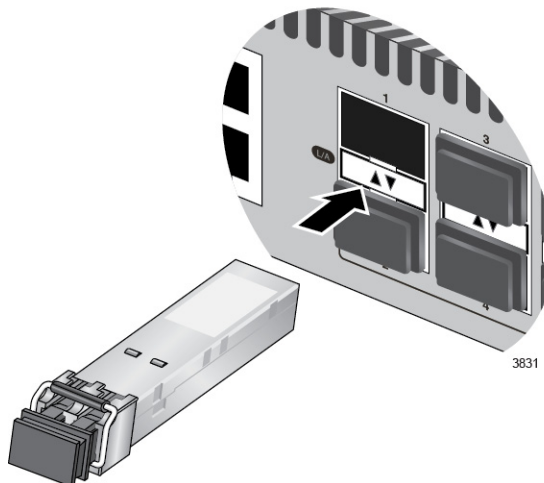

Figure 35. Installing a Transceiver
4. Slide the transceiver into the slot until it clicks into place, as shown in Figure 35.